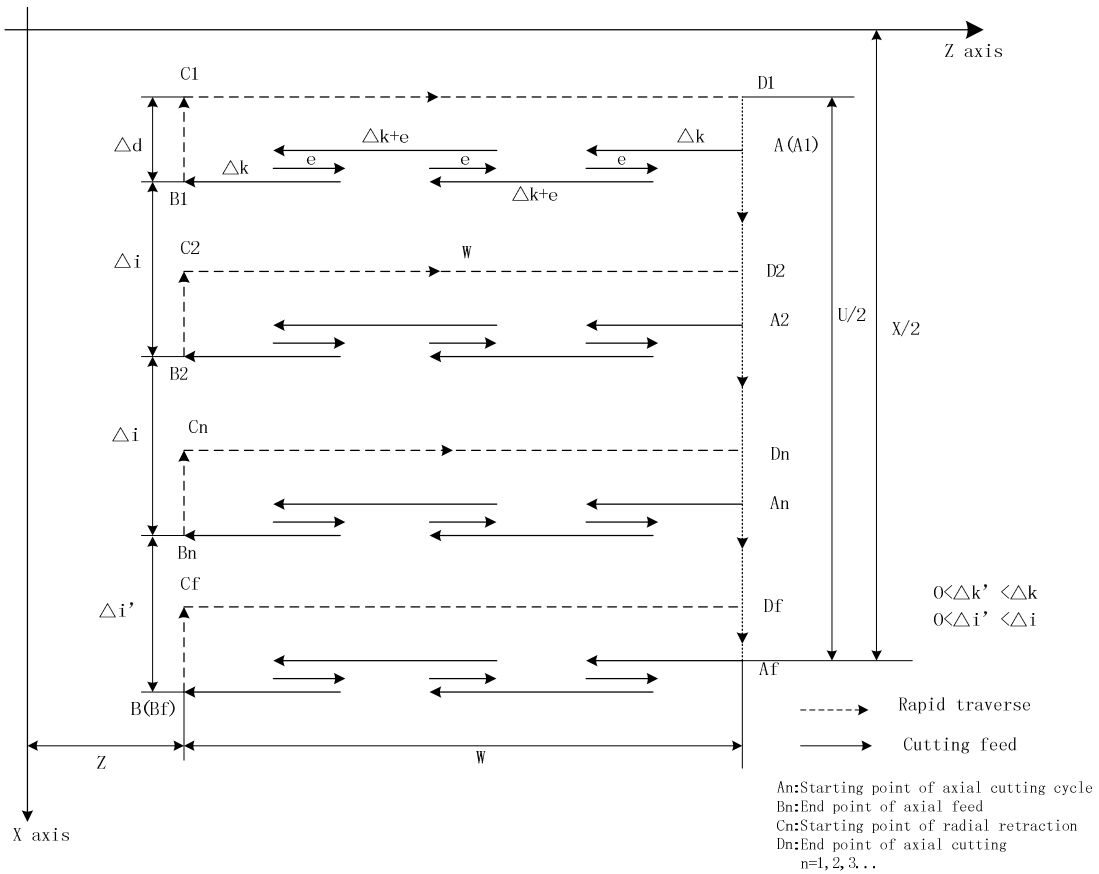

Fig. 3-34 G74 path
**P( $\Delta i$ ):** radial(X) cutting for each axial cutting cycle, range:  $0 < \Delta i \leq 9999999 \times$  least input increment (unit: least input increment, diameter value, without sign symbol).
**Q( $\Delta k$ ):** radial(Z) cutting for each axial cutting cycle, range:  $0 < \Delta k \leq 9999999 \times$  least input increment (unit: least input increment, diameter value, without sign symbol).
**R( $\Delta d$ ):** radial (X) tool retraction after cutting to end point of axial cutting, range:  $0 \sim 99999999 \times$  least input increment (unit: mm/inch, diameter value, without sign symbol).. The radial (X) tool retraction clearance is 0 when the system defaults the axial cutting end point. The system defaults the tool retraction is executed in positive direction when X(U) and P( $\Delta i$ ) are omitted.
**Execution process:** (Fig. 3-34)
- ① Axial (Z) cutting feed  $\Delta k$  from the starting point of axial cutting cycle, feed in Z negative direction when the coordinates of cutting end point is less than that of starting point in Z direction, otherwise, feed in Z positive direction;
- ② Axial (Z) rapid tool retraction e and its direction is opposite to the feed direction of ①;
- ③ X executes the cutting feed ( $\Delta k + e$ ) again, the end point of cutting feed is still in it between starting point  $A_n$  of axial cutting cycle and end point of axial tool infeed, Z executes the cutting feed ( $\Delta k + e$ ) again and execute ②; after Z executing the cutting
- feed ( $\Delta k+e$ ) again, the end point of cutting feed is on  $B_n$  or is not on it between  $A_n$  and  $B_n$  cutting feed to  $B_n$  in Z direction and then execute ④;
- ④ Radial(X) rapid tool retraction  $\Delta d$  to  $C_n$ , when X coordinate of  $B_f$  (cutting end point) is less than that of A (starting point), retract tool in X positive, otherwise, retract tool in X negative direction;
- ⑤ Axial(Z axial) rapid retract tool to  $D_n$ , No. n axial cutting cycle is completed. If the current axial cutting cycle is not the last one, execute ⑥; if it is the previous one before the last axial cutting cycle, execute ⑦;
- ⑥ Radial(X axial)rapid tool infeed, and it direction is opposite to ④ retract tool. If the end point of tool infeed is still on it between A and  $A_f$  (starting point of last axial cutting cycle) after X executes the tool infeed ( $\Delta d+\Delta i$ ), i.e.  $D_n \rightarrow A_{n+1}$  and then execute ① (start the next axial cutting cycle); if X end point of tool infeed is not on it between  $D_n$  and  $A_f$  after tool infeed ( $\Delta d+\Delta i$ ), rapidly traverse to  $A_f$  and execute ① to start the first axial cutting cycle;
- ⑦ X rapidly traverse to return to A, and G74 is completed.